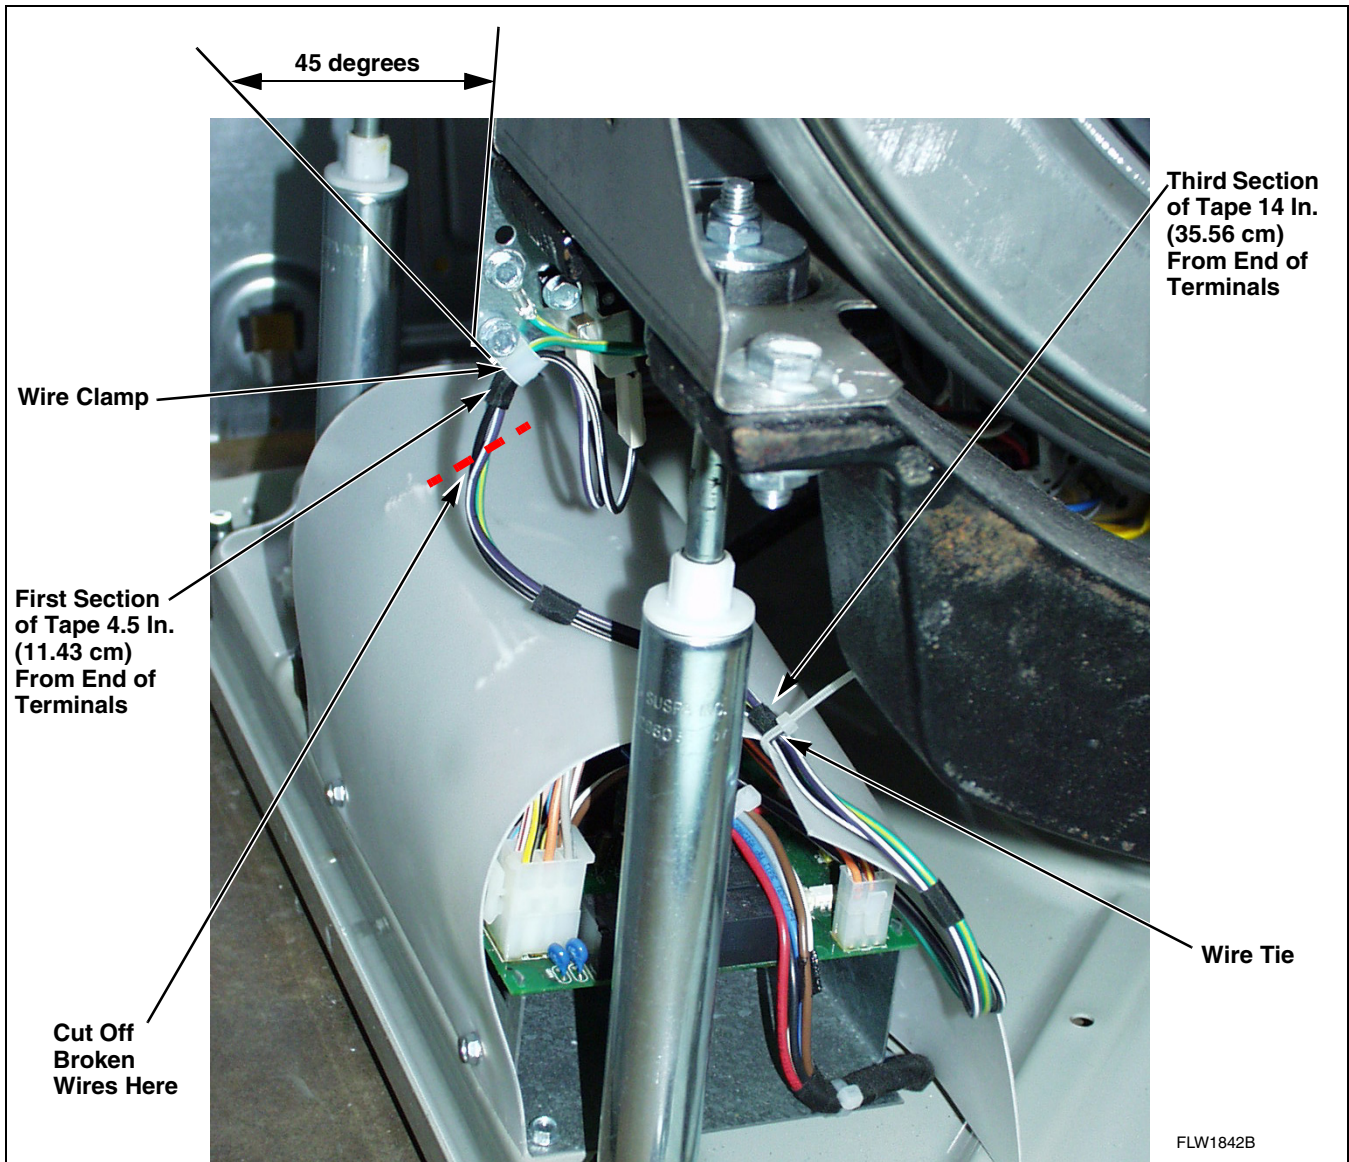

Figure 10
If broken wires are found at the out-of-balance switch wire support, cut off portion of wires as shown in *Figure 10* and add new UL approved terminals.
- e. After replacing or repairing the wire harness, wrap electrical tape around wires in two locations as indicated below and in *Figure 10*. Then secure the harness wires to the original factory locations using clamp and wire tie. Refer to *Figure 10*.
- (1) The plastic wire clamp should be angled toward the switch at 45 degrees.
- (2) The clamp should wrap around the first section of tape on the harness, which should be placed approximately 4.5 inches (11.43 cm) from end of terminals.
- (3) The harness should be secured to the inverter control shield with a wire tie.
- (4) The tie should wrap around the third section of tape on the harness, which should be placed approximately 14 inches (35.56 cm) from end of terminals. Refer to *Figure 10*.